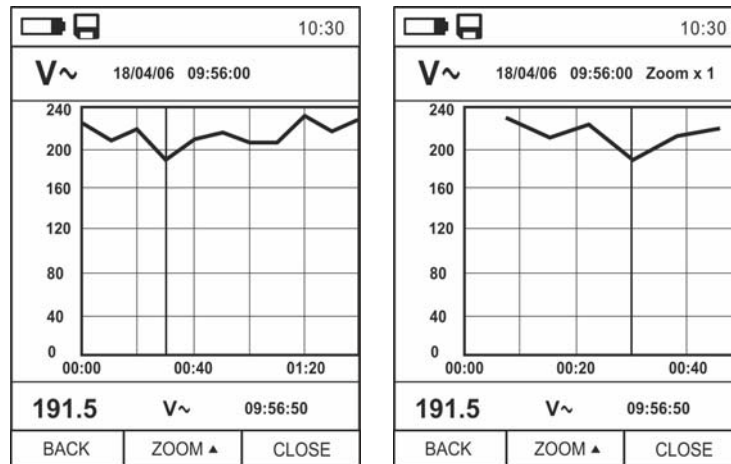

Fig. 35: Data logger function – Display of recording graph
17. Press key **MODE (TREND)** to display the graph of the recording and the relevant trend over time (Trend). The screen in Fig. 35 – left side appears on the display.
19. Press key ▲ (**ZOOM**) to activate (if available) the Zoom of the values on the graph (see Fig. 35 – right side) in order to increase resolution. The indication “Zoom xY” in which Y = max zoom dimension appears at the top of the display. You can zoom X1 for at least 10 measuring points, X2 for at least 20 measuring points, X3 for at least 40 measuring points and so on, for maximum 6 zooming operations.